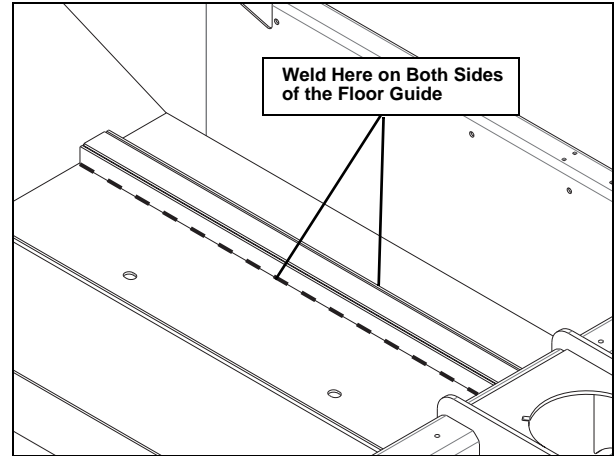

Figure 70. Floor guide top-view
15. Tack weld the floor guides to the hopper floor (see Figure 70. “Floor guide top-view”).